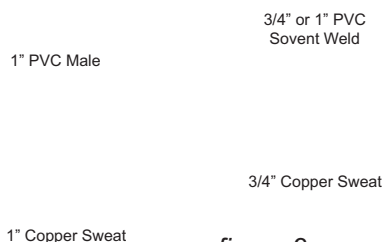

figure 2
4. Attach the selected connection fitting kit to the bypass. The nuts, split rings, and o-rings install the same as the bypass. (see figure 2) Connection kit sizes available are 1" NPT PVC, 3/4" or 1" Solvent Weld, 1" Sweat Copper, and 3/4" Sweat Copper. See your dealer if a specific kit is needed other than the included kit.